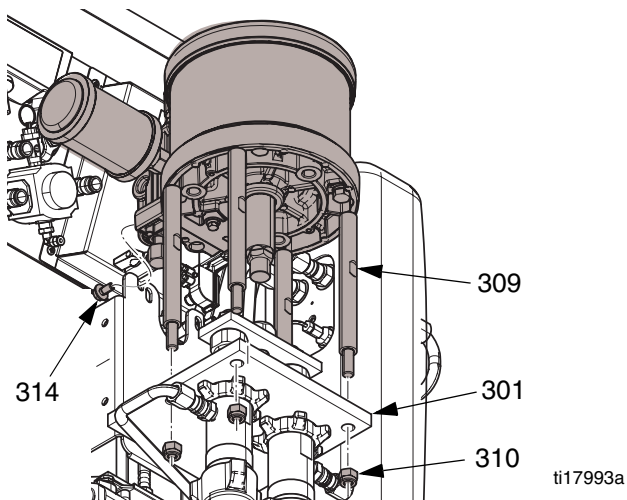

FIG. 2
3. Install tie rods through plate (301). Ensure screws (314) fit in the bracket slots (311). Install screws (314). See FIG. 2.
4. Tighten nut (313) to 32-38 ft-lbs (43-51 N•m).
5. Evenly torque four tie rod nuts (310) in small increments to 27-32 ft-lbs (37-43 N•m). See FIG. 2.